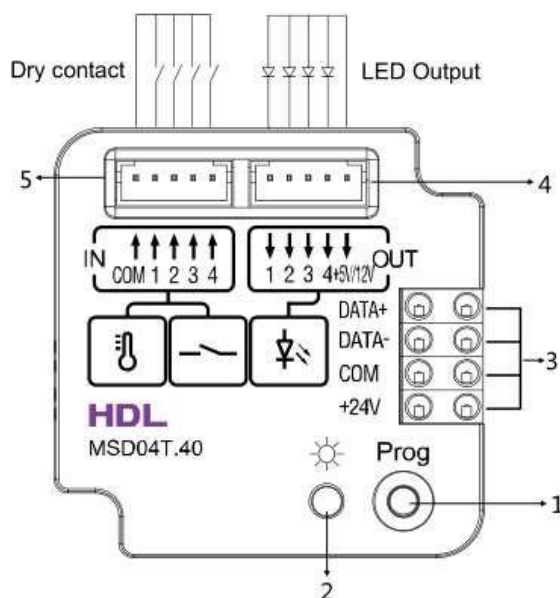

Figure 4. Wiring
1.2.2 Wiring - See Figure 4 - 6